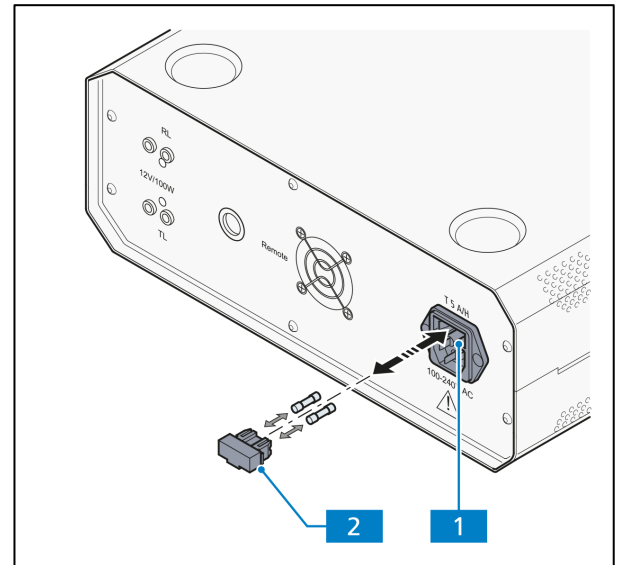

Fig. 5-2 Replacing fuses in the power supply unit
- Pull the fuse retainer (Fig. 5-2/2) out to the front with the aid of a small screwdriver, if necessary.
- Push the fuse retainer back into the compartment (Fig. 5-2/1) to the stop.